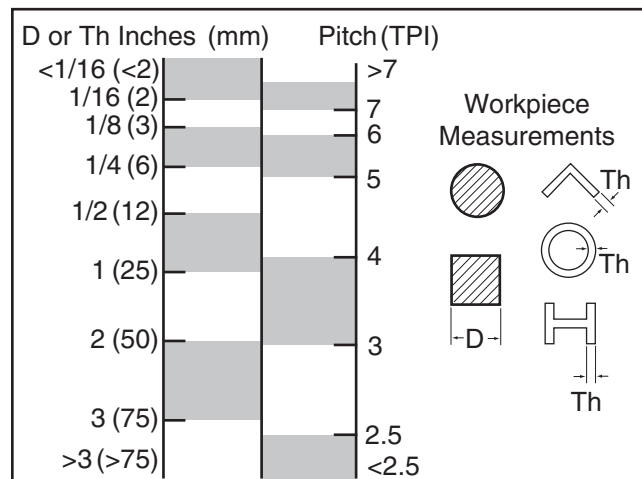

Figure 20. Blade selection chart.
—For solid workpieces, this measurement is the length of cut taken from where the tooth enters the workpiece, sweeps through, and exits the workpiece. See (D) on the chart in **Figure 20**.
2. Refer to the "D or Th" column of the blade selection chart in **Figure 20**, and read down to find the workpiece thickness you need to cut. Read across to find the appropriate Pitch (TPI) for the cut. For blade alternatives, see **Replacement Blades on Page 24**.